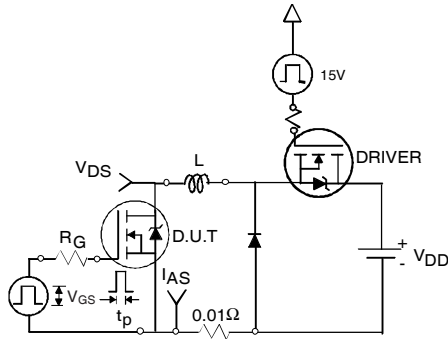

Fig 12a. Unclamped Inductive Test Circuit
- ③ Pulse width $\leq 1.0ms$; duty cycle $\leq 2\%$.
- ④ C_{OSS} eff. is a fixed capacitance that gives the same charging time as C_{OSS} while V_{DS} is rising from 0 to 80% V_{DSS} .
- ⑤ Limited by T_{Jmax} , see Fig.12a, 12b, 15, 16 for typical repetitive avalanche performance.
- ⑥ This value determined from sample failure population. 100% tested to this value in production.
- ⑦ When mounted on 1" square PCB (FR-4 or G-10 Material) . For recommended footprint and soldering techniques refer to application note #AN-994
3. Equation below based on circuit and waveforms shown in Figures 12a, 12b.